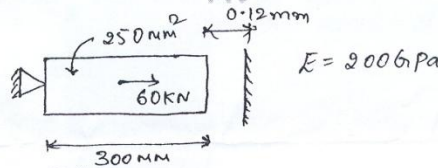

Fig Q2(b)
- A bar is loaded as shown in figure Q2(b), an axial load of $P = 60\text{kN}$ is applied at the midpoint. Using penalty approach method of handling boundary conditions, determine,